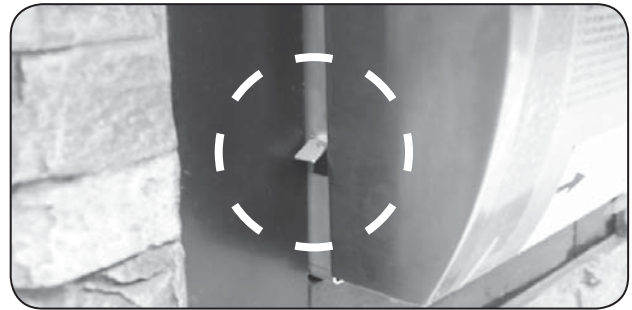

Fig. 14-2 Tab may interfere when sliding in unit
**Note:** Each side of the unit has a tab just behind the control panel. These tabs prevent the control panel from moving inward. If the tabs interfere with the unit sliding in (see Fig. 14-2), use pliers to bend them inward so that they clear the enclosure sides. Leave the tabs slightly out to ensure they still keep the control panel from moving inward (see Fig. 14-3).